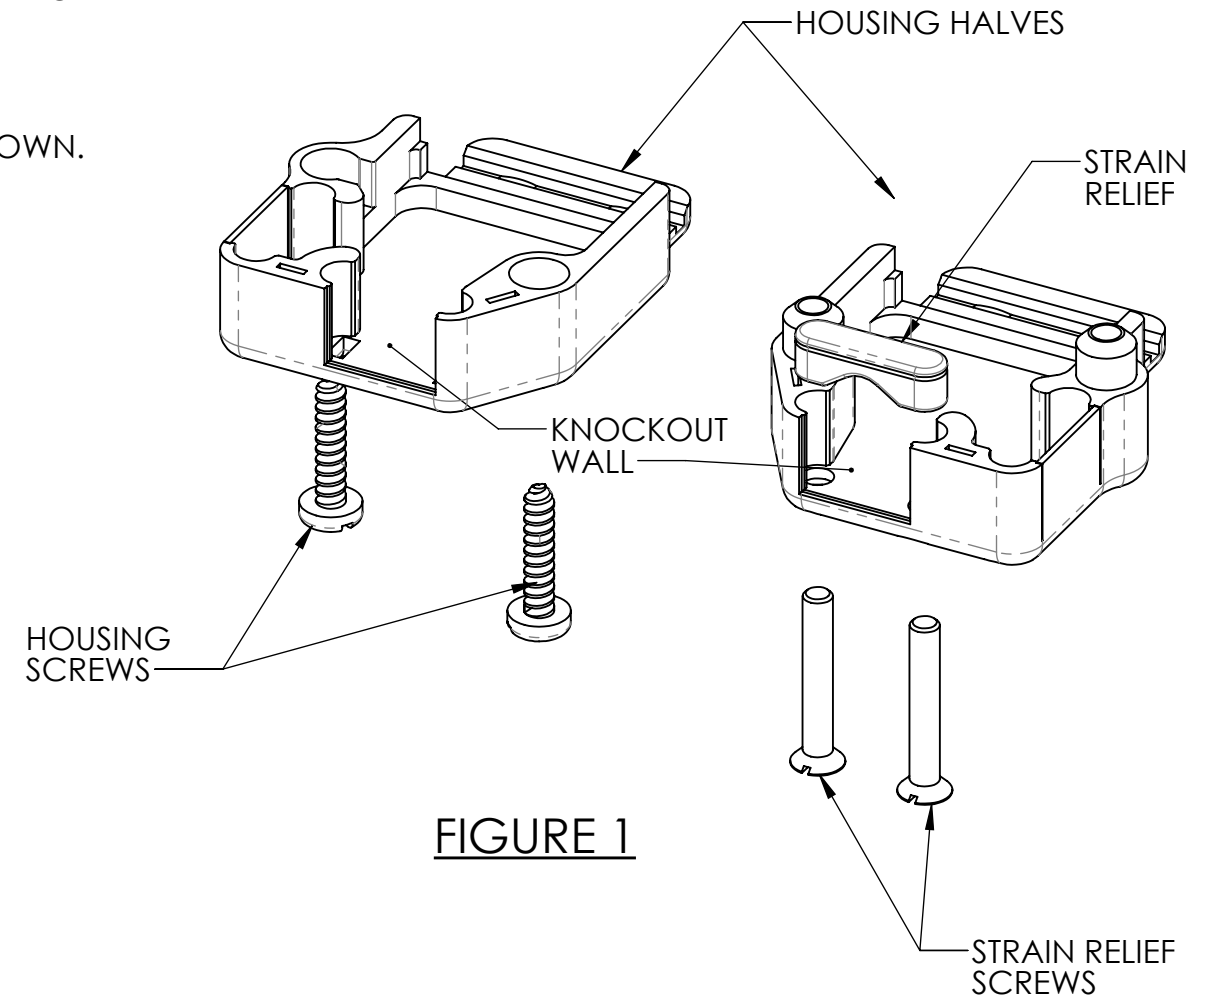

FIGURE 1
1. REMOVE AND DISCARD ANY LABEL(S) ATTACHED TO ANY LEADS.
7. DRESS LEADS INTO DB9 HOUSING AND SECURE TWO HALVES OF HOUSING, ENSURING IT IS SECURED OVER HEAT SHRINK. SEE FIGURE 1 FOR PARTS.